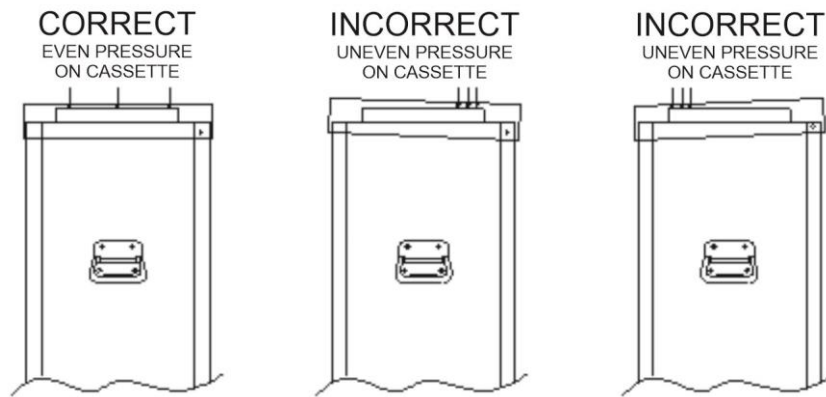

Figure 11 – HiVol Hood Attachment
7. Apply sufficient down-ward pressure to the rear of the inlet hood to ensure a good seal between the size selective inlet and the filter cassette. Whilst applying this pressure, tighten the pivot bolts securing the inlet hood to the sampler. If fitted correctly, the inlet hood assembly will sit horizontally and will exert even pressure on the filter cassette when secured. Figure 11 shows the correct alignment of the inlet hood on the sampler.